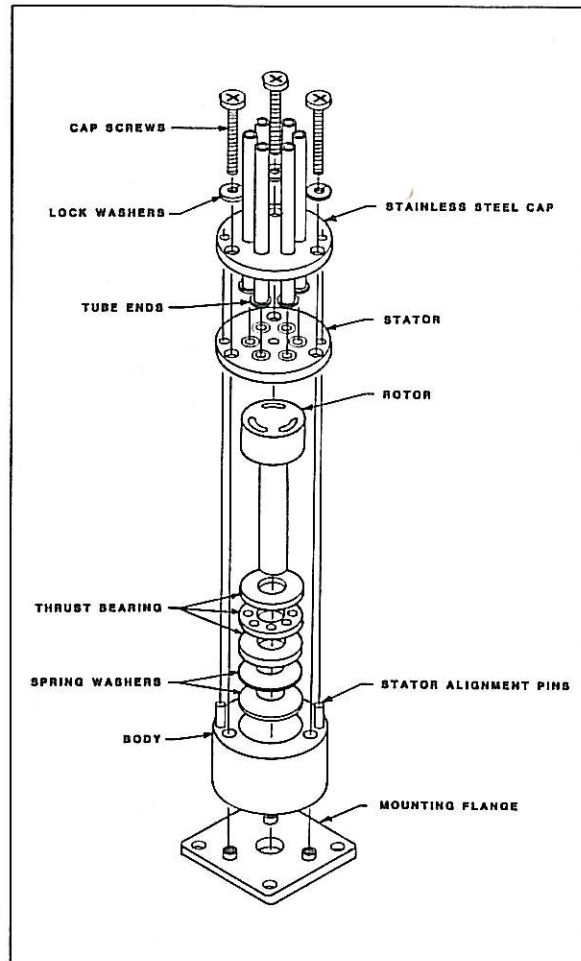

Fig. 5.1 Six-Port Rotary Valve
- Refer to Fig. 5.1. Un screw and remove the three hold down nuts and lock washers from the bottom of the mounting flange with a 1/4" wrench.
- Reassemble the valve by replacing the parts exactly as they were previously oriented. Refer to Fig. 5.1 for proper orientation during assembly.